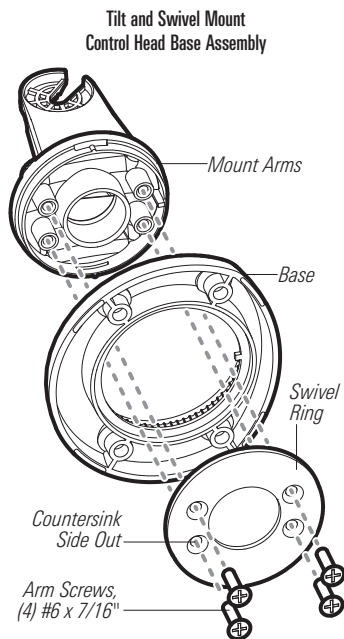

Figure 28
3. Secure the mount arms with the four #6 screws provided (Figure 28).